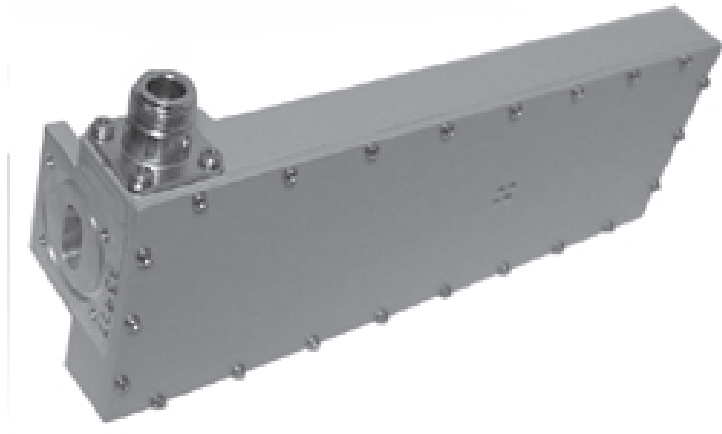

Figure 4-2. The LNC
The receive signal from the antenna's feed horn is fed via a WR-75 waveguide flange into the LNC, which is bolted to the feed horn of the antenna. The LNC consists of two blocks: a Ku-band low noise amplifier (LNA) and a block converter that mixes the Ku-band receive signal with the local oscillator (LO) from the receive converter module to produce an L-band output. (See Figure 4.2)